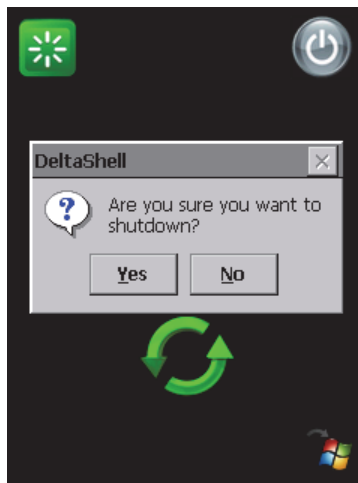

Figure 4-29 The confirm message box
5. In the confirm message box (see Figure 4-29 on page 85), tap **Yes**.